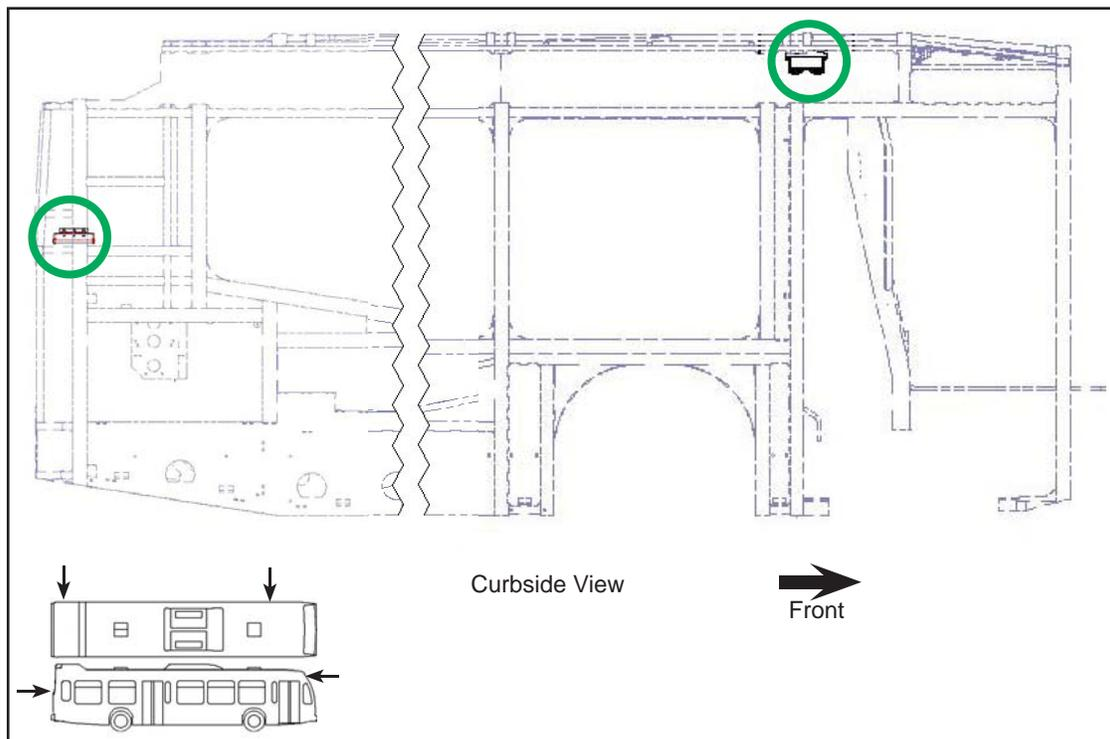

Figure 1 - DC-DC Converters Location
- 1.2. Locate the first DC-DC converter. See Figure 1.
- 1.8. Locate the second DC-DC converter. See Figure 1.